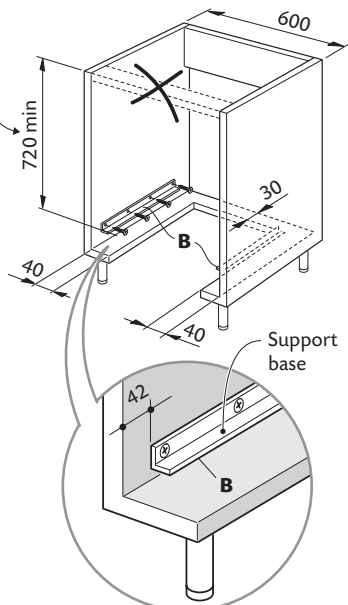

Fig. 34
- Remove the upper cross member support as indicated in figure 34.
- Cut the bottom of the housing as indicated in figure 34.